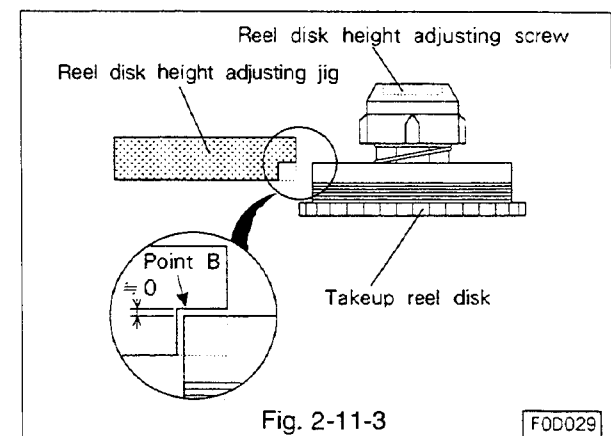

Fig. 2-11-3
- L. If the height of the disk is not satisfactory, hold the disk so that it does not turn, and turn the height adjusting screw at the top of the disk to adjust the height. (Refer to Fig. 2-11-3.)
- F. Turn the jig slowly about the point A towards the takeup reel disk to make certain that the height of the disk flange agrees with the point B on the takeup side of the jig (marked TU). (Refer to Fig. 2-11-3.)